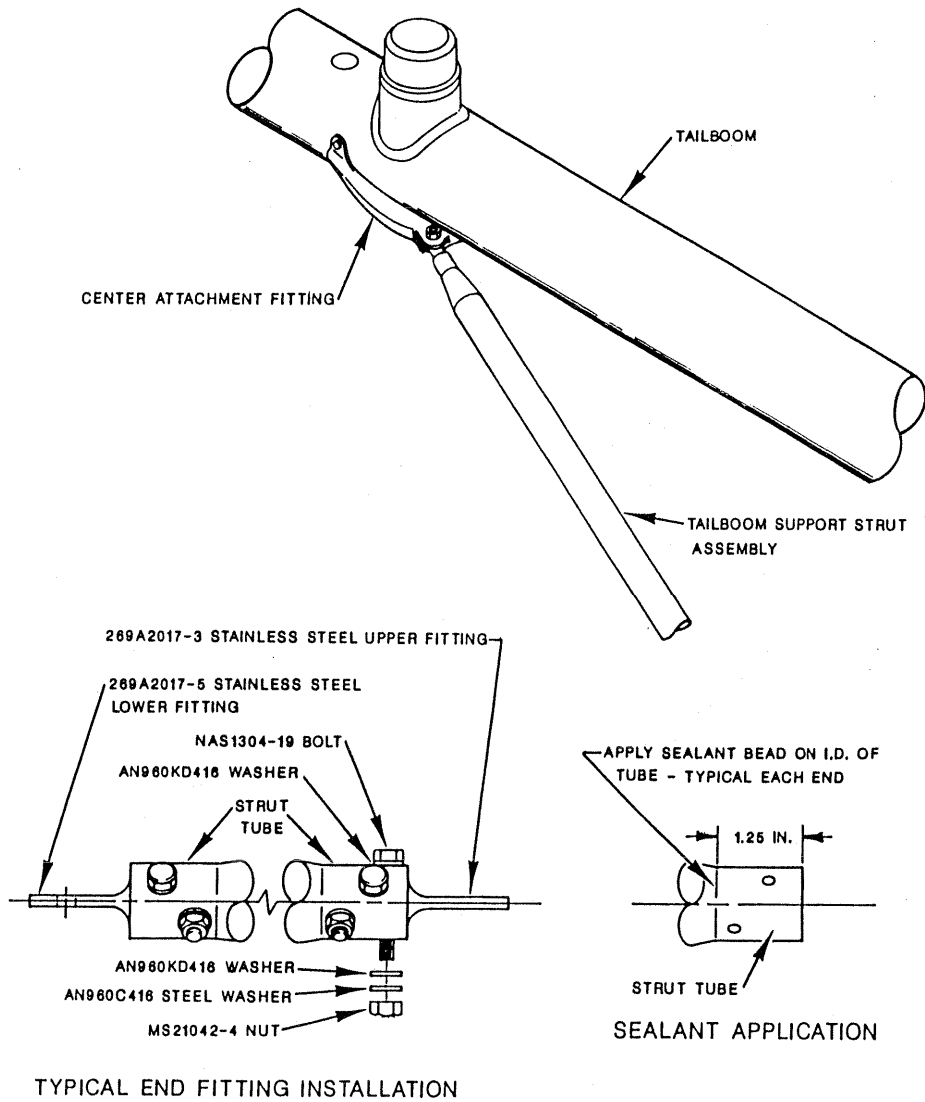

Figure B-253-1. Typical Tailboom Support Strut Assembly
- a. Without removing paint, check for sealing compound application at joints between strut tubes, end fittings, and end fitting attachment hardware (Figure B-253-1). Perform step (1) or (2) below, as applicable.
- (1) If sealing compound IS found, no corrective action is required. (Record PART I compliance, step g.)
- (2) If sealing compound IS NOT found, perform corrective action in accordance with the following.
- (1) Apply a .090 inch diameter bead of sealing compound (Proseal #890 or PR1221) to inside surface of strut tube, 1.25 inches from each end (Figure B-253-1).
- (2) Apply wet zinc chromate primer to end fittings, align index marks and insert end fittings into respective ends of strut tube while sealing compound is still tacky.
- e. Install support strut hardware as follows (Figure B-253-1):
- (1) Assemble AN960KD416 washer on NAS1304-19 bolt, apply sealing compound to both sides of washer and wet zinc chromate primer to bolt shaft. Insert bolt through strut tube and end fitting.
- (2) Apply sealing compound to both sides of second AN960KD416 washer and install washer on bolt. Install AN960C416 steel washer and MS21042-4 nut on bolt - verify that steel washer is installed adjacent to nut.
- (3) Torque nuts 110 to 130 in.-lbs., back-off and retorque 90 to 110 in.-lbs. (contour forming of washers that results from compression is allowable).
- (4) Apply sealing compound to joints between strut tubes, end fittings, and end fitting attachment hardware.
- (5) Paint touchup support strut assembly as required (Basic HMI, Section 2).